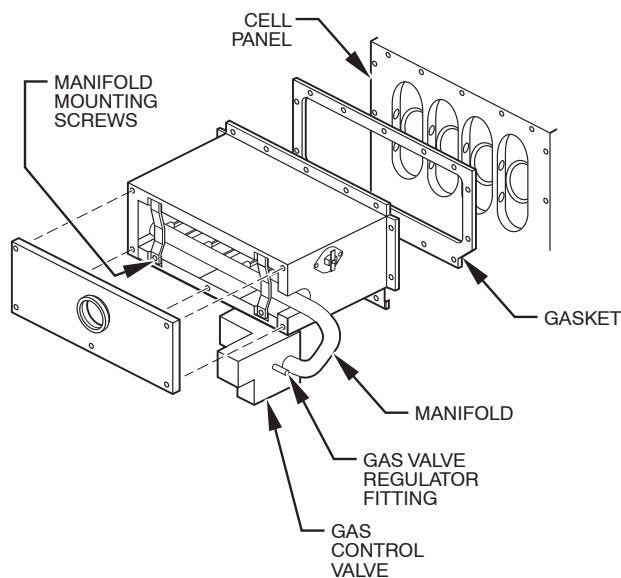

Fig. 6 - Burner Box Assembly
9. Remove screws that secure manifold to burner box. (See Fig. 6.)
10. Remove screws attaching burner box to cell panel. (See Fig. 6.)
12. Reverse items 3 through 10 for reassembly.
**NOTE:** Be sure burner box gasket is installed between burner box and cell panel. (See Fig. 6.) If gasket is damaged, replace it.